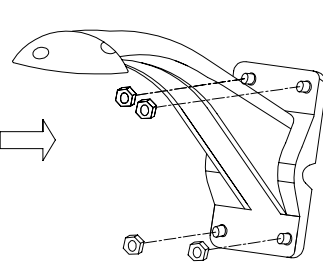

Figure11
8) Fix the bracket on the wall ( Figure11 ) .